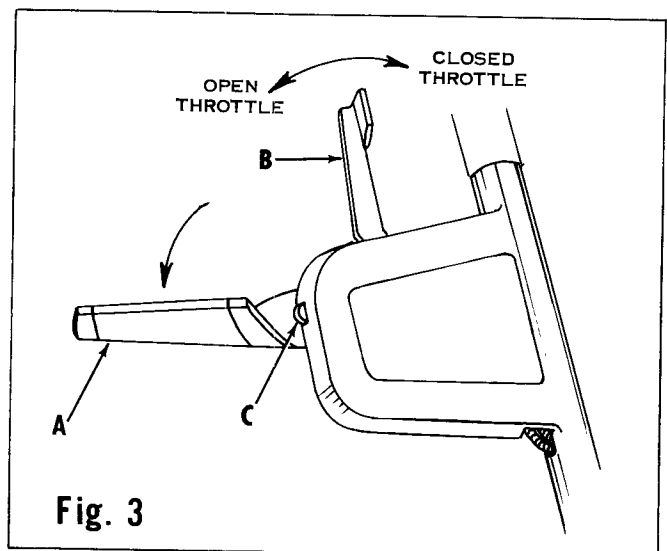

Fig. 3
The traction and throttle controls (A & B) (see Figure 3) are installed in place at the factory.
push traction lever down from slot and pull backwards. Figure 3 shows traction lever in proper position for forward motion.
Throttle control (B) is shown in Figure 3 in the open position. Move in direction of arrow to close.